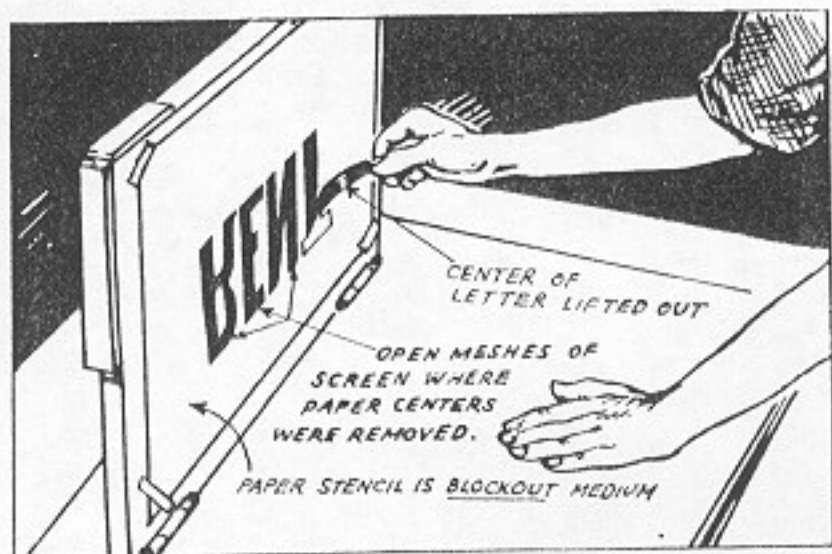

Fig. 78. Remove Printing Portions
6. Carefully lift out the letters, or the parts of the design that are to print, Fig. 78.